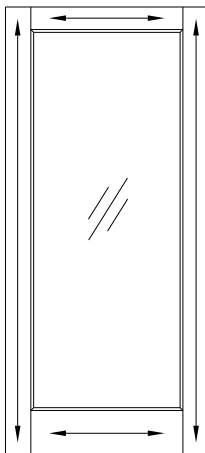

Figure 4
- Sand the entire surface lightly using 5/0 sandpaper (180 grit) before you apply first coat of finish. Always sand in the direction of the wood grain, see Figure 4.
- Stain door to desired color following stain manufacturer's instructions. Always stain in the direction of the wood grain, see Figure 4.
- Finish the door with two coats of latex, oil-base or lacquer paint. Make sure to allow door to completely dry between coats on all six sides of door. Always paint in the direction of the wood grain, see Figure 4.